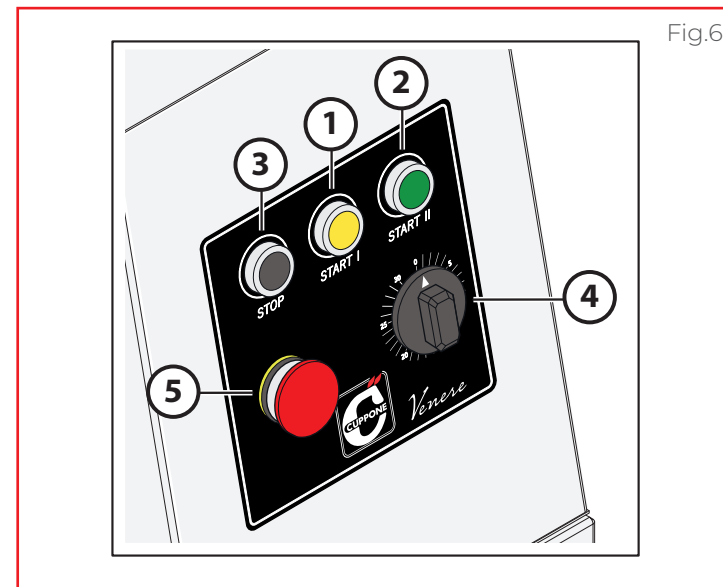

Fig.6
► **Fig.6** Processing must start this way:
- rotate the timer (4) to the desired time; this value shows **how long** the appliance has to knead (for instance if the timer is set to “10” the appliance will knead for 10 minutes).